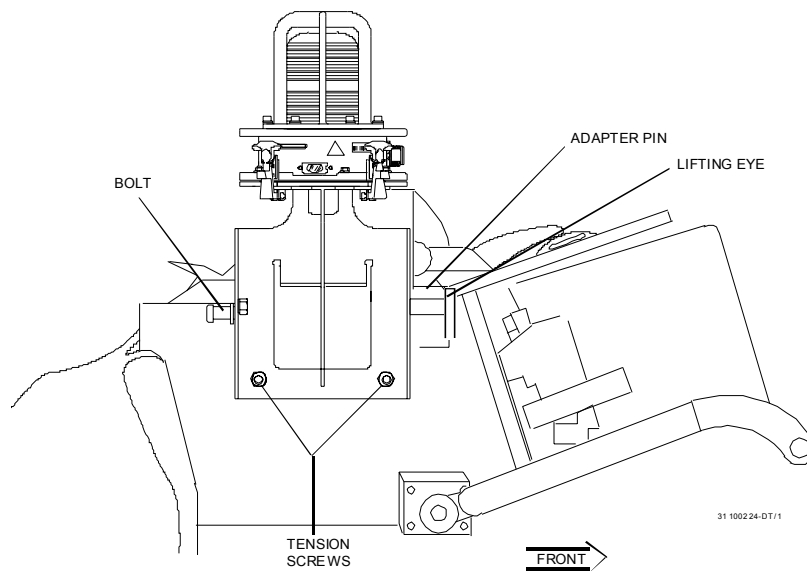

Figure 2-22. M2/M3 KSI Mounted to the Integrated Sight Unit (ISU).
- e. The adapter assembly mounts to the right side of the Integrated Sight Unit (ISU). The adapter assembly has an adapter pin on the right upper side of the adapter. (See Figure 2-22.) Insert this adapter pin into the ISU lifting eye closest to the front of the ISU.